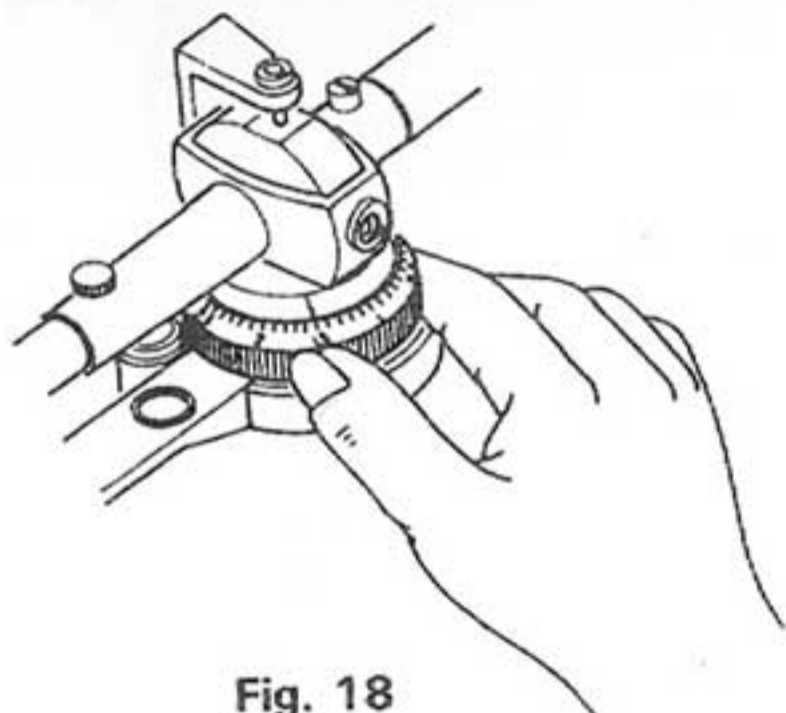

Fig. 18
2. Set the ANTI-SKATING control to the tracking force value of the cartridge to be used. (Fig. 18). When using